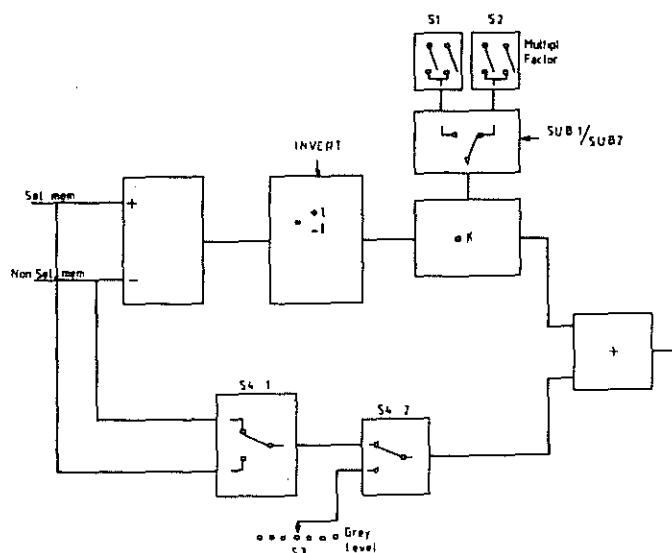

Figure 5.3 : Simplified diagram of the Subtractor.
Figure 5.3 gives a simplified diagram of the subtractor.
- LSUB 1 or LSUB 2 selects the multiplication factor which is set by the switches S1 and S2 (see fig. 5.3).
- Addition is filled in by the switches S4.1, S4.2 and S3. (See fig. 5.3).